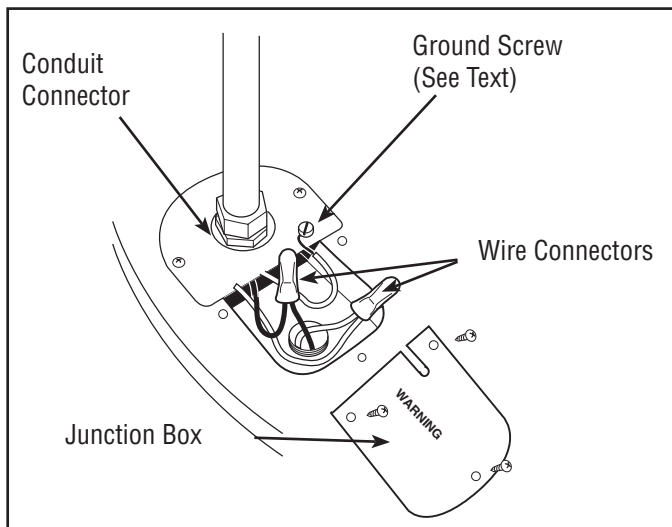

Figure 3 - Water Heater Junction Box.
The water heater is completely wired to the junction box inside jacket at top front of water heater. An opening for 1/2" or 3/4" electrical fitting is provided for field wiring connections. (Refer to Fig. 3)
- Non-metallic sheathed cable or metallic conduit or metallic sheathed cable not approved for use as a ground conductor shall include a separate conductor for grounding. It should be attached to the ground terminals of the water heater and the electrical distribution box. (Refer to Fig. 3)